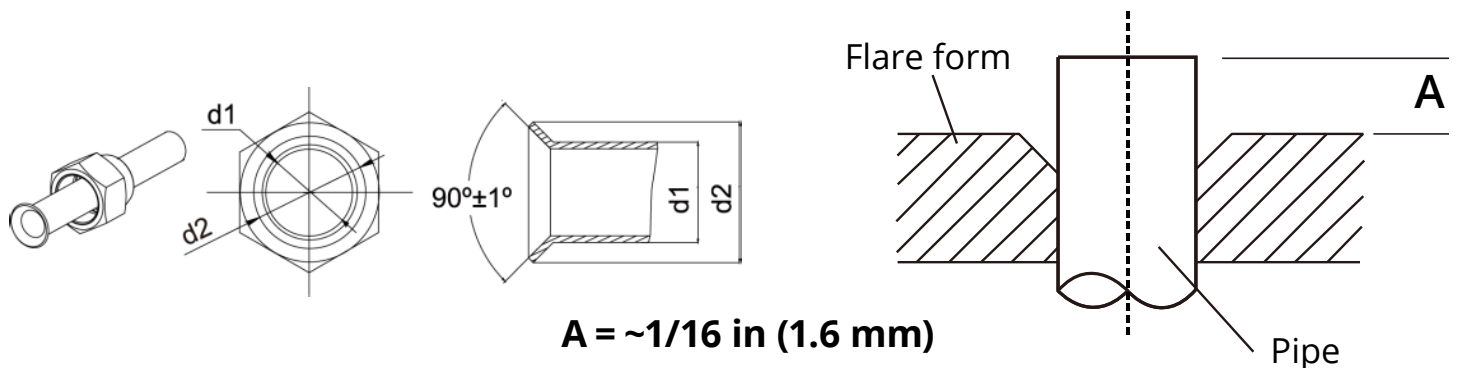

Fig. 2.14
7. Place flaring tool onto the form, as shown in **Fig. 2.14**